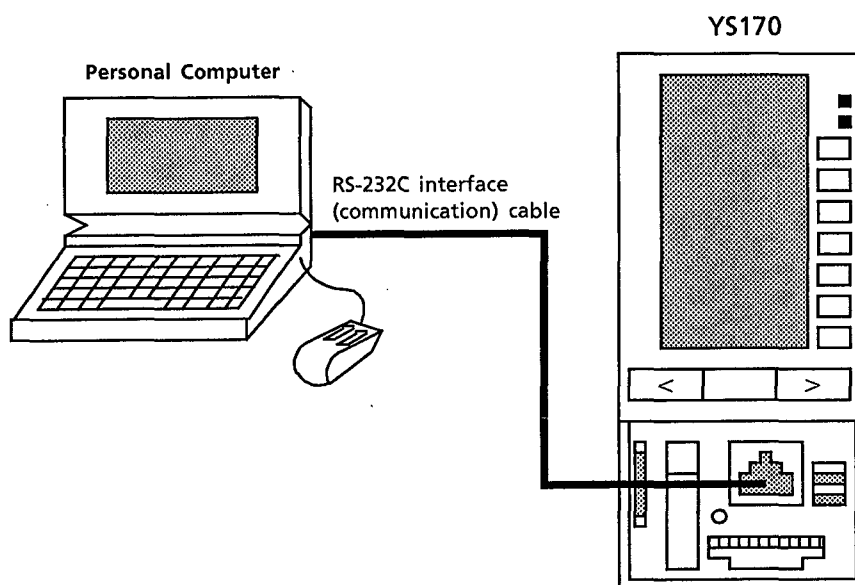

Figure 3.6 Connecting to a Personal Computer
- ① Turn on the power of the personal computer, then start up the programming package. Connect them while power to this controller is turned on.
- ② Connect one end of the RS-232C interface cable to the personal computer (Cables are attached to the programming package). Refer to the instruction manual of the personal computer for connection.
- ③ Swing up the front panel (see Section 3.2 "Swinging the Front Panel Up and Down").
- ④ Connect the other end of the RS-232C interface cable to the RS-232C connector of the personal computer connection on this controller (see Figure 3.6).